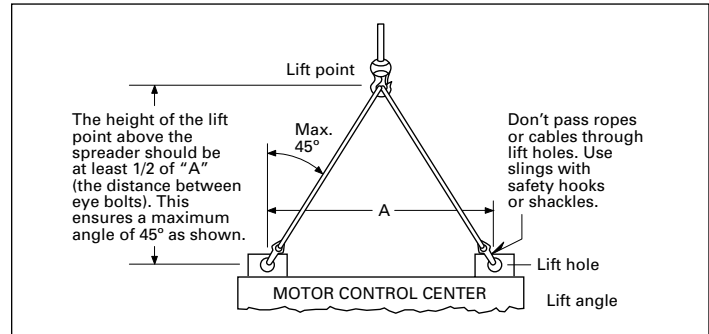

Figure 3. Correct use of lifting angle
1. See **Figure 3** for recommended lifting configuration.